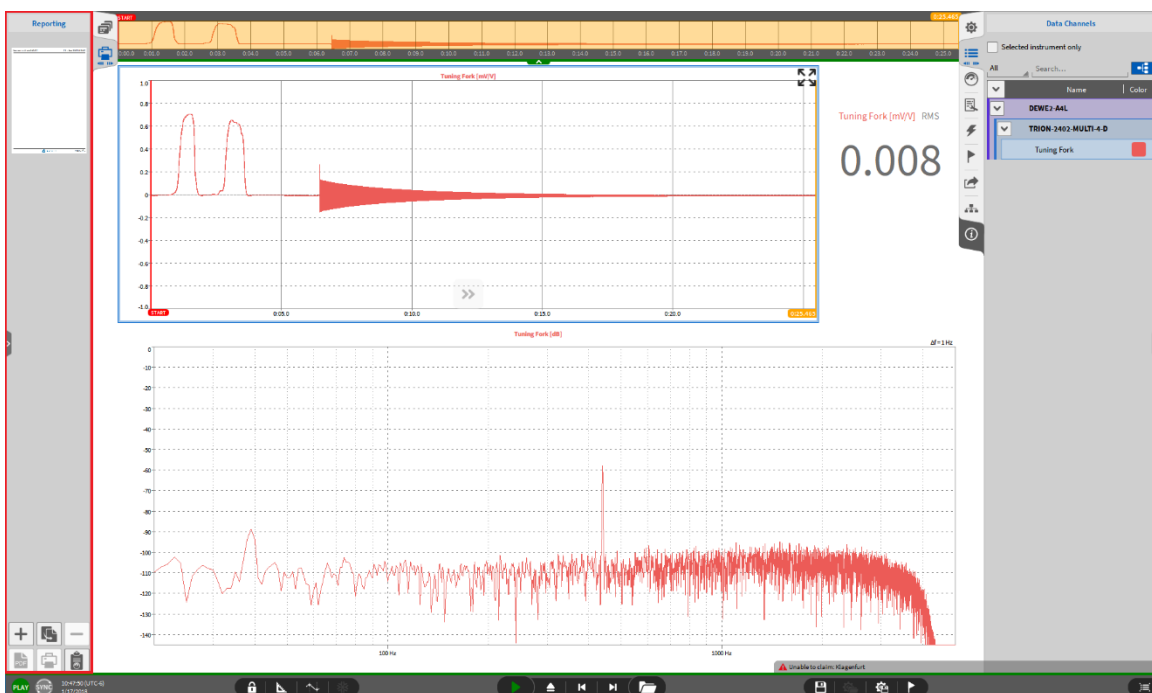

Figure 11-3: Open the small-view of the Reporting menu
- Open the small-view of the Report menu (see Figure 11-3):